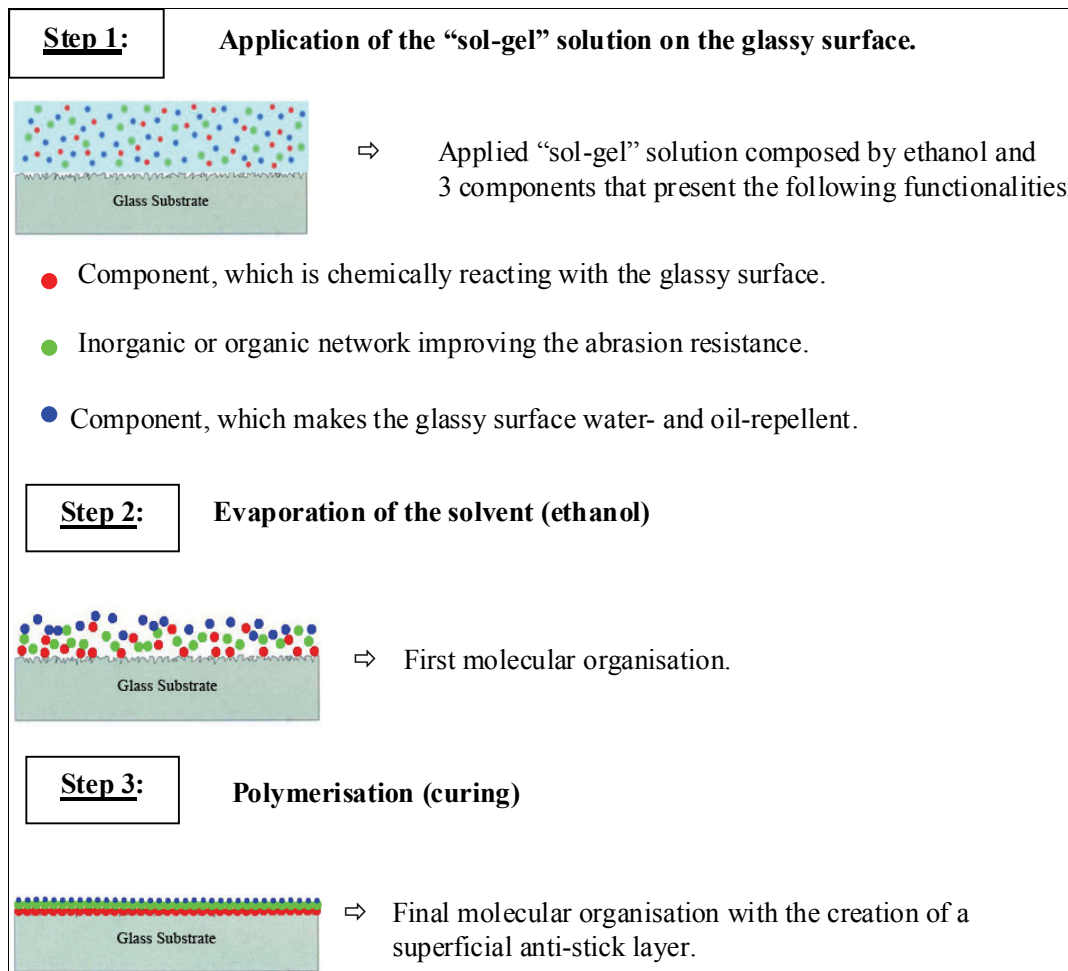

Fig. 5 NanoClean structure
5.1 NanoClean / its structure (Fig. 5)